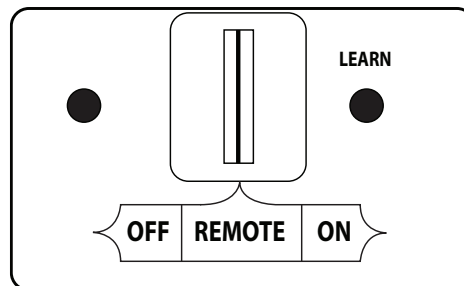

Fig. 10-2 Remote receiver detail (REMOTE)
1. Ensure the pilot is burning. Then locate the 3-position switch on the remote receiver (see Fig. 10-2), and slide the switch to the **REMOTE** position.